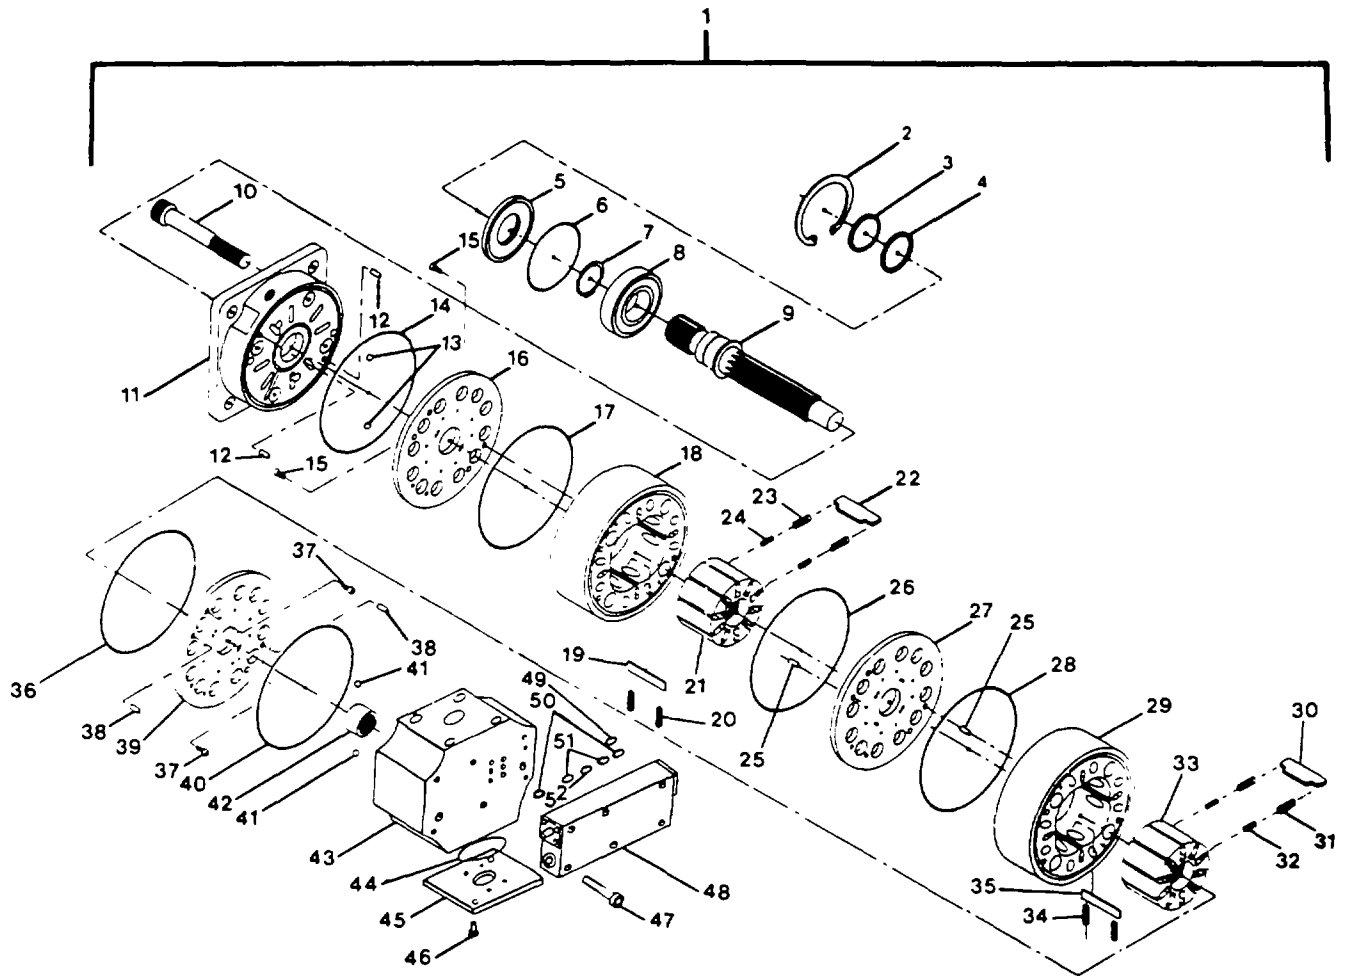

FIGURE 4-27. Hydraulic Motor Assembly.
**DISASSEMBLY** (FIGURE 4-27)
- b. Remove retaining ring (2).
- c. Remove preformed packing (3) and (4).
- d. Remove seal plate (5) and preformed packing (6).
- e. Remove retaining ring (7).
- f. Remove shaft (9) and bearing (8) from housing (11).
- g. Remove bearing (8) from shaft (9) with bearing puller.
ASSEMBLY (FIGURE 4-27)